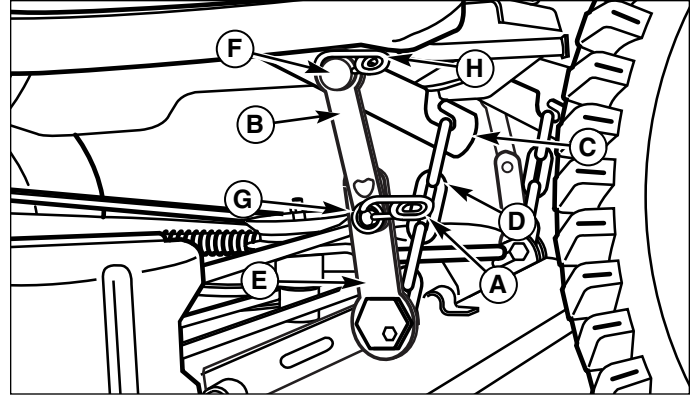
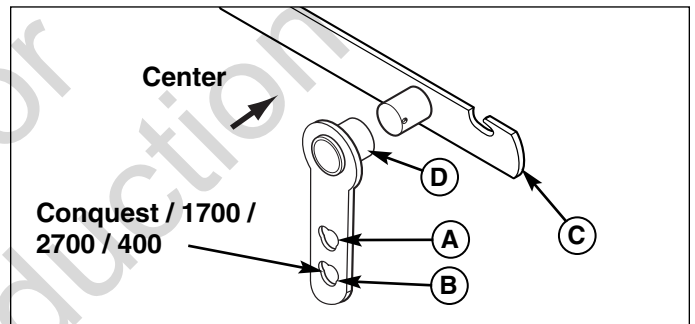

Figure 9. Lift Arms
Figure 10. Upper Hanger
4. Disconnect the safety clips (A & H, Figure 9) and washer (G) from the lower hanger (E). Remove upper hanger (B) from lift post (F). Connect upper hanger (B) to lower hanger (E) using safety clip (A) to prevent misplacing or losing parts. Repeat on other side.
6. Remove lift chain (D) from lift hook (C). Repeat on other side.
4. See Figure 9. Connect the lift chain (D) to the lift hook (C). Repeat on other side.
6. Disconnect the safety clip (A & H, Figure 9) from the upper hanger (B) and lower hanger (E) if still connected from storage. Slide upper hanger (B) over post on lift hook (F). The long hub (D, Figure 10) on the upper hanger must face toward center. Connect hole on upper hanger (B, Figure 9) to post on lower hanger (D). Secure with washer (G) and safety clip (A & H). Repeat on other side.
NOTE: Use lower hole for Conquest / 1700 / 2700 / 400 as shown in Figure 10.